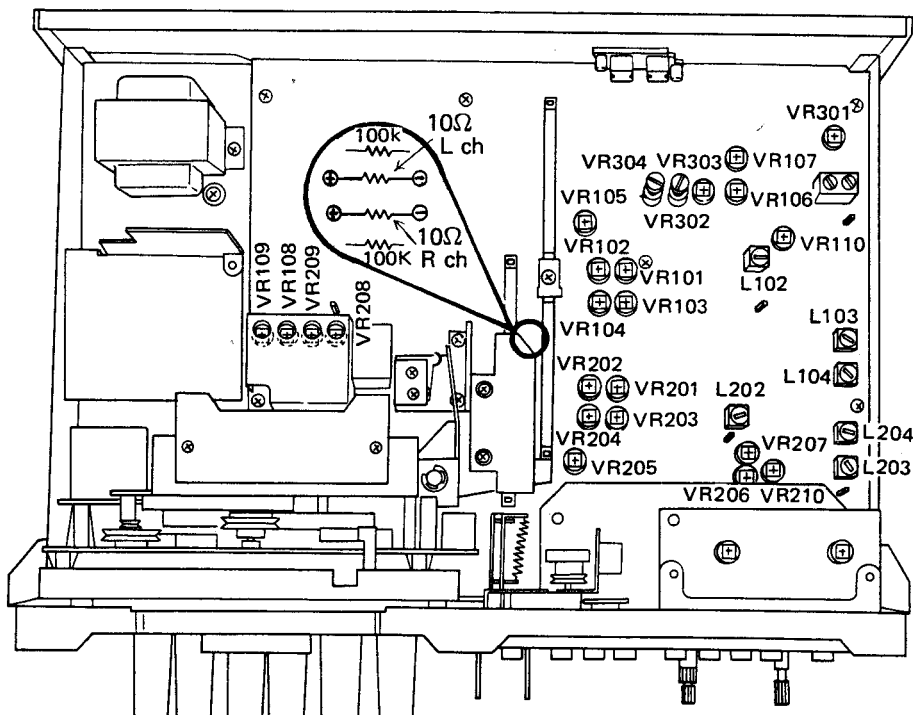

Fig. 8-3 Adjustment points
1. Connect a mV meter to both ends off 10ohm resistor as shown in Figure 8-3.
1. As was the procedure in 9.6, the section on recording current rough adjustment, connect a mV meter to both ends off 10ohm resistor as shown in Figure 8-3.